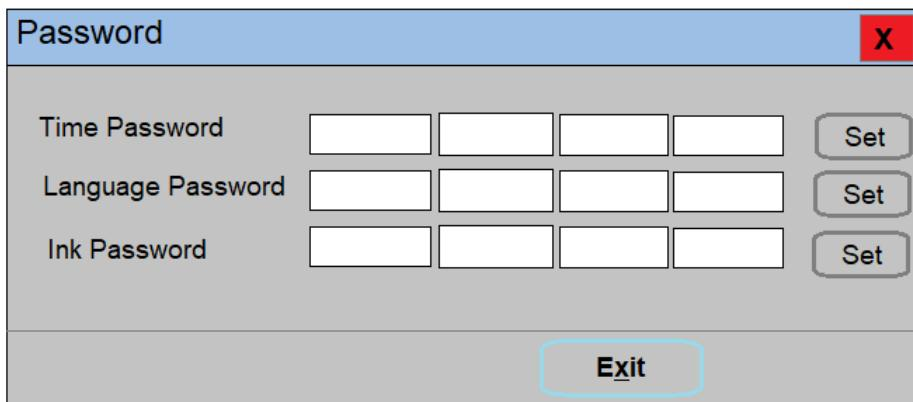

Figure 22: Password Window
Step 2 Feed Password in the **Time Password** field (Refer to Fig 22).
Step 3 After feeding the passwords, click on the **Set** button (Refer to Fig 22).
Step 4 Click on the **Exit** button to close the **Password** window (Refer to Fig 22).